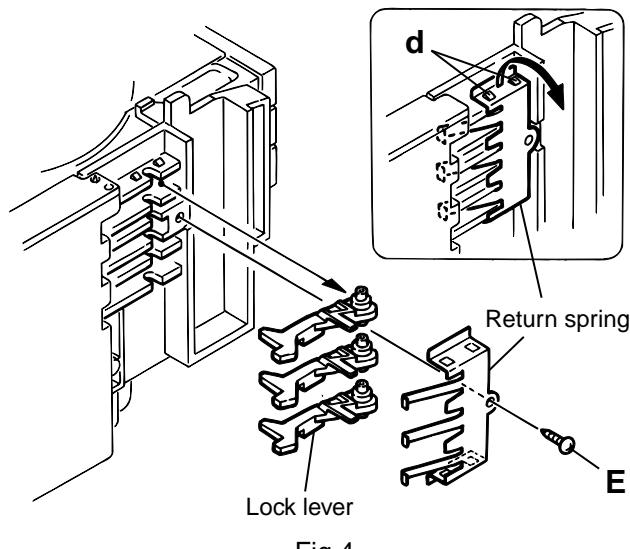

Fig.4
8. From the left side face of the chassis assembly, remove the one screw **E** retaining both of the return spring and lock lever(See Fig. 4).
9. By removing the pawl at the section "d" fixing the return spring, dismount the return spring(See Fig.4).
10. Remove the three lock levers(See Fig.4).